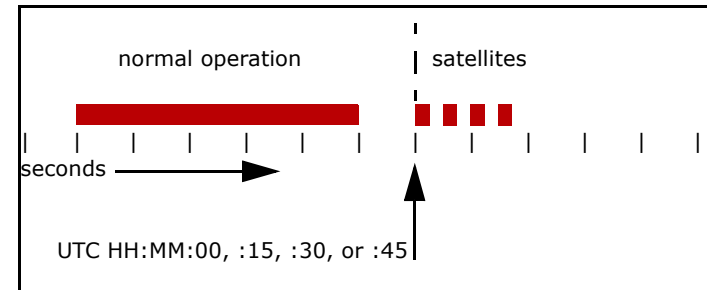
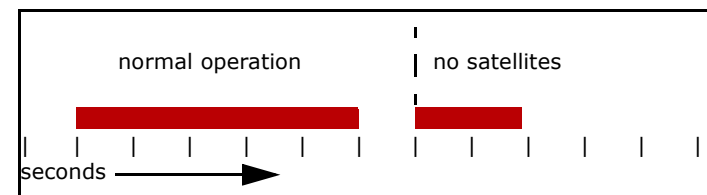

Fig. 2-29: Pattern of flashes indicating four (or more) satellites acquired.
Fig. 2-30: A single long flash indicates zero satellites acquired.
- After the 7-second instrument status indication, the LED pattern is 250ms on, 250ms off, for each satellite acquired, for up to four satellites (see Fig. 2-29). If no satellites have been acquired, the pattern is 1.9s on, 0.1s off (see Fig. 2-30).